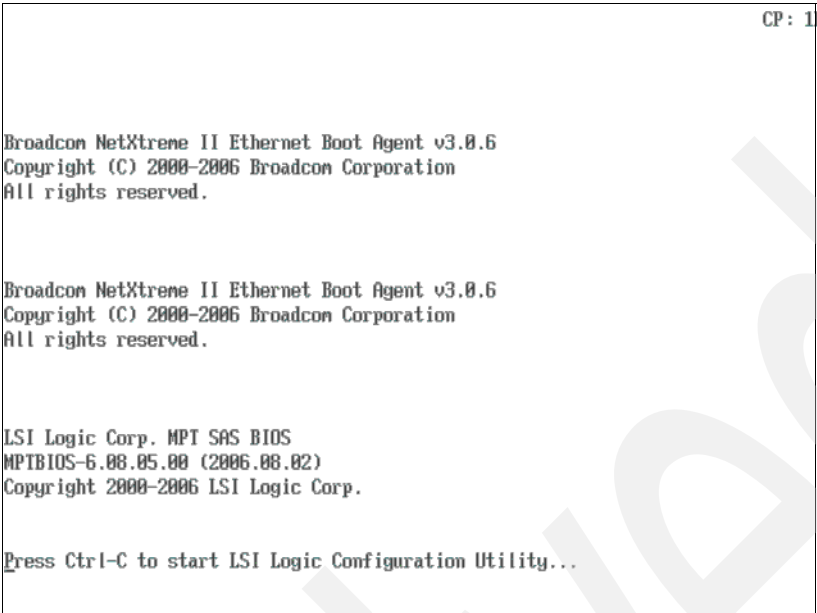

Figure 19-2 SAS Expansion Card - LSI Logic Config Utility
2. Press <Ctrl + C> to enter the LSI Logic Configuration Utility, as shown in Figure 19-2.